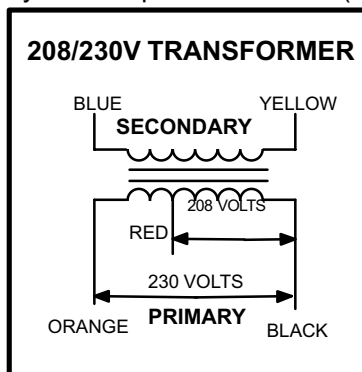

FIGURE 4
transformers use two primary voltage taps as shown in figure 4, while 460 (G) and 575 (J) voltage transformers use a single primary voltage tap. Units will be factory wired for 230V (orange and black). 208V (red and black) applications should be rewired in the field.
All LCA series units with 45 - 120 kW electric heat use a single line voltage to 24VAC transformer mounted in the electric heat control hat section in the control box. The transformer supplies power to all electric heat controls (contactors and coils). The transformer is rated at 70VA and is protected by a 3.5 amp circuit breaker CB13. The 208/230 (Y) voltage transformers use two primary voltage taps as shown in figure 4. Transformer T2 is identical to T1.